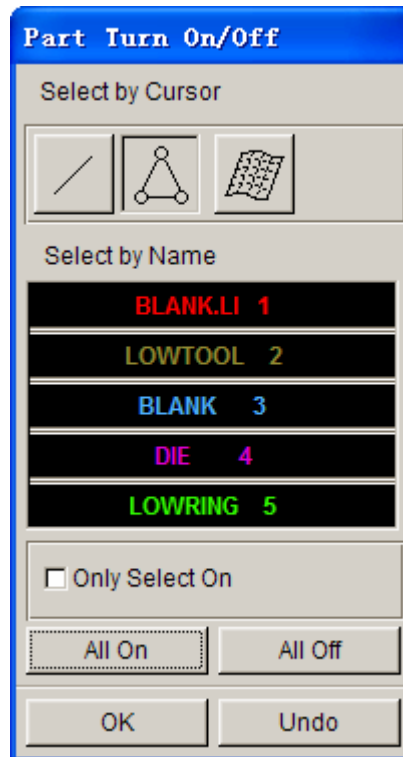

Figure 45: Part turn on/off dialog box
11. Select the **Unspecified** button to display the **Part Turn On/Off** dialog box shown in Figure 45.